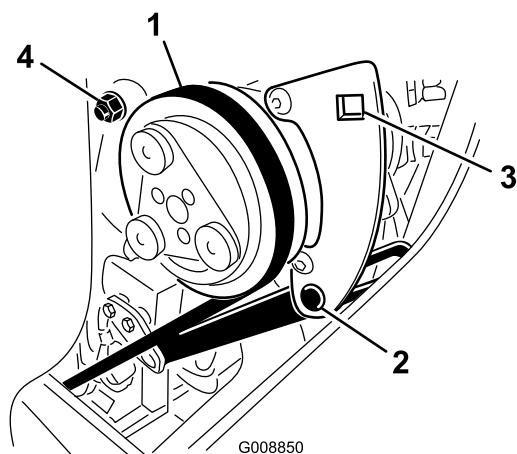

Figure 79
1. Loosen the compressor pivot bolt and adjusting bolt (Figure 79).
2. Insert a torque wrench into the square hole in the compressor bracket (Figure 79).